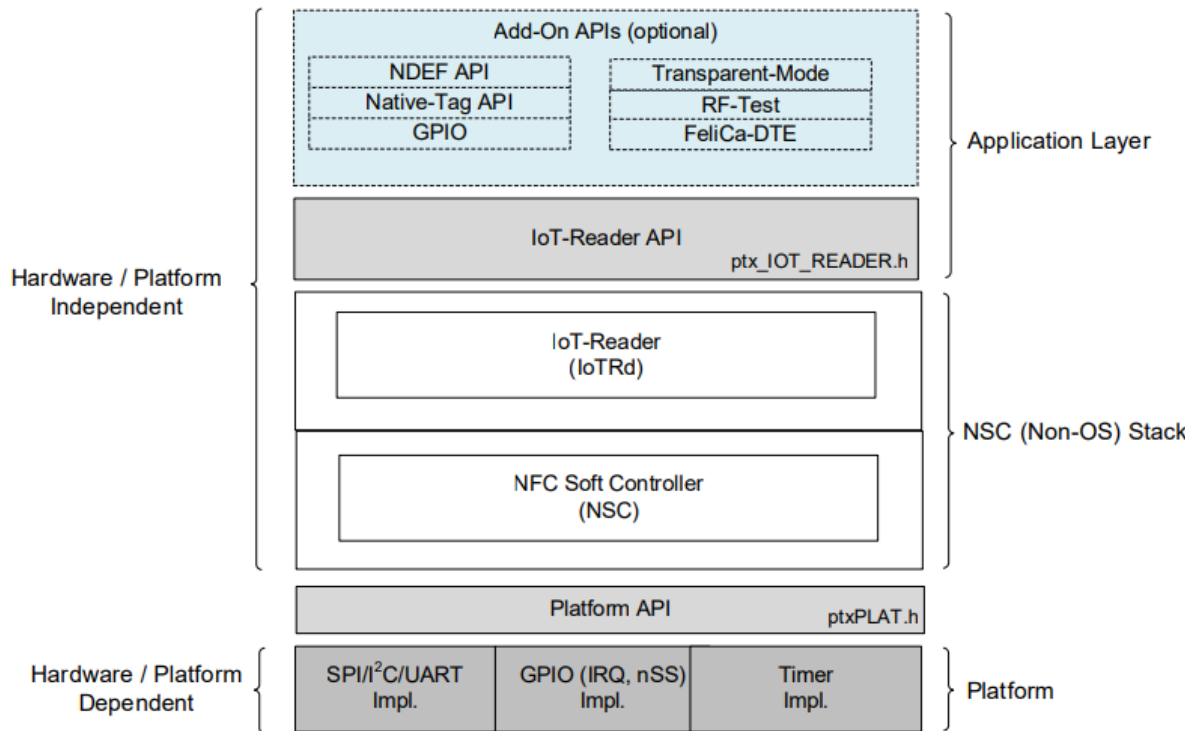

Figure 7. IoT-Reader (Non-OS) Stack Architecture
- Figure 7. IoT-Reader (Non-OS) Stack Architecture6
The IoT-Reader (Non-OS) system follows a component-based approach that increases modularity and usability. The components are divided into two main groups (see Figure 7):